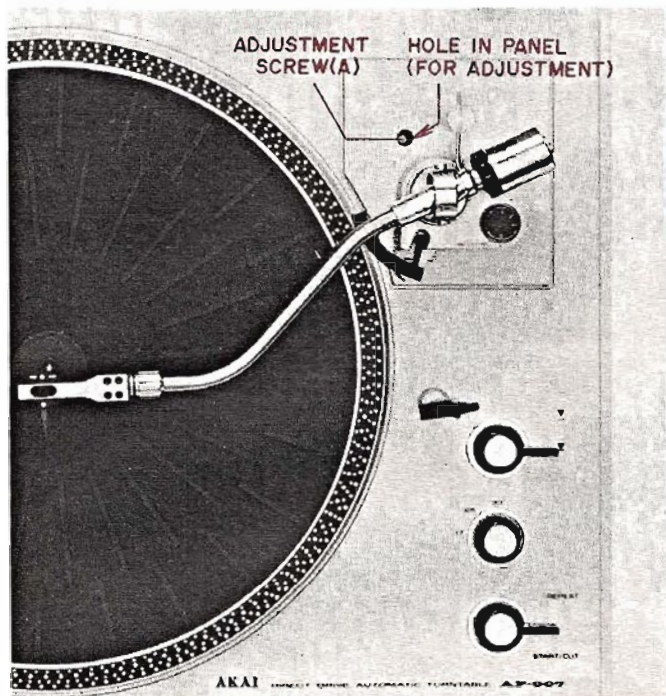

Fig. 11 Lead-in Adjustment
Remove the rubber cap from the tone arm stand. As illustrated in Fig. 11, when the tone arm is shifted from the tone arm rest nearly to the position where the lead-out motion starts, the adjustment screw (A) appears in the hole from which the rubber cap has been removed.